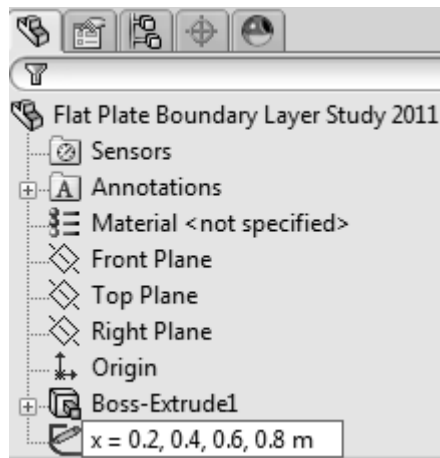

Figure 2.8 Renaming the sketch for boundary layer velocity profiles
8. Repeat step 7 three more times and add three more vertical lines to the sketch, the second line at $X = 400$ mm with a length of 40 mm, the third line at $X = 600$ mm with a length of 60 mm and the fourth line at $X = 800$ mm with a length of 80 mm. These lines will be used to plot the boundary layer velocity profiles at different streamwise positions along the flat plate. Close the **Insert Line** dialog . Save the SolidWorks part with the following name: **Flat Plate Boundary Layer Study 2011**. Rename the newly created sketch in the **FeatureManager design tree**, see figure 2.8. Click on the **Rebuild** symbol  in the SolidWorks menu.